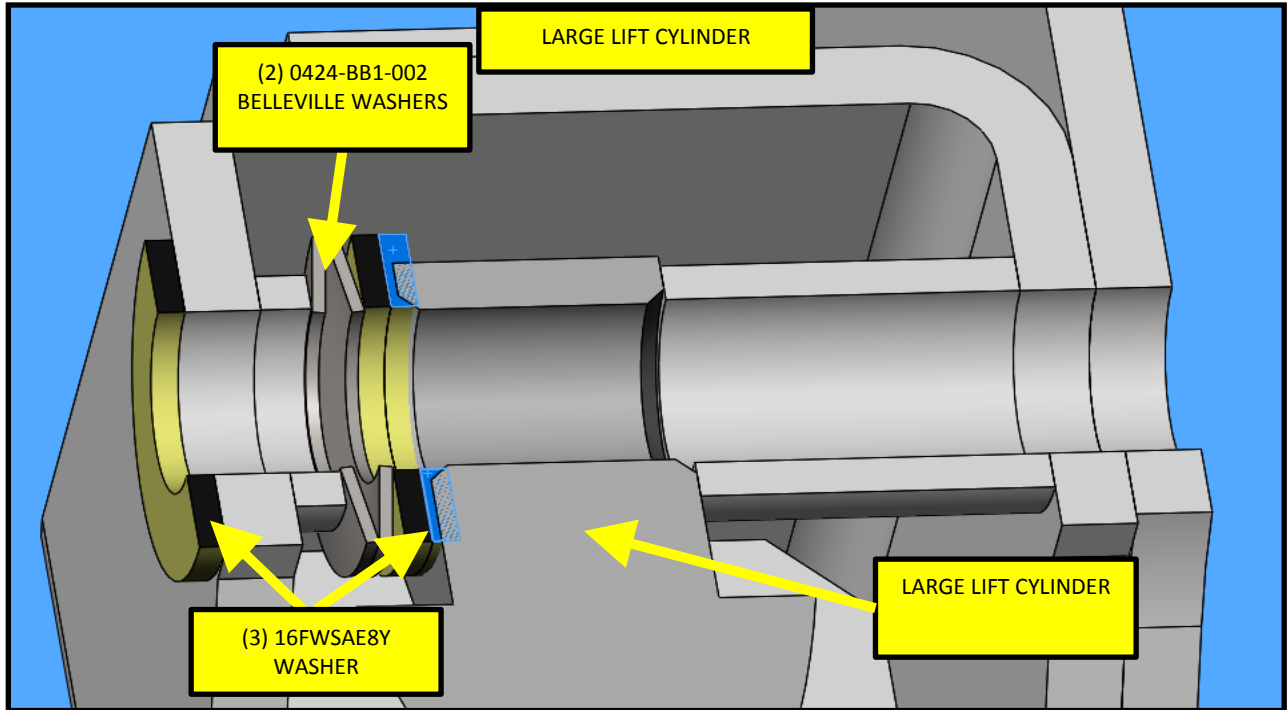

FIG. 9-1
- b. Insure that the Belleville Washers are oriented correctly. Refer to FIG. 9-1.